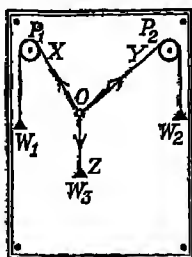

FIG. 174.
**Expt. 232.** A drawing-board on which is pinned a sheet of paper is supported vertically (Fig. 174).  $P_1$  and  $P_2$  are light pulleys round which pass thin cords attached to a small ring  $O$ . Another cord is attached to  $O$  and hangs vertically supporting a weight,  $W_3$ .  $W_1$  and  $W_2$  are weights attached to the cords from the pulleys. The ring  $O$ , which if small may be considered a point, is at rest. The three forces acting on it must balance. Consider the two forces  $W_1$  and  $W_2$ . One acts in the direction  $OX$  and the other in the direction  $OY$ . As  $O$  is at rest, the force  $W_3$  acting in the direction  $OZ$  must balance them. This force is called the *equilibrant* of  $W_1$  and  $W_2$ .